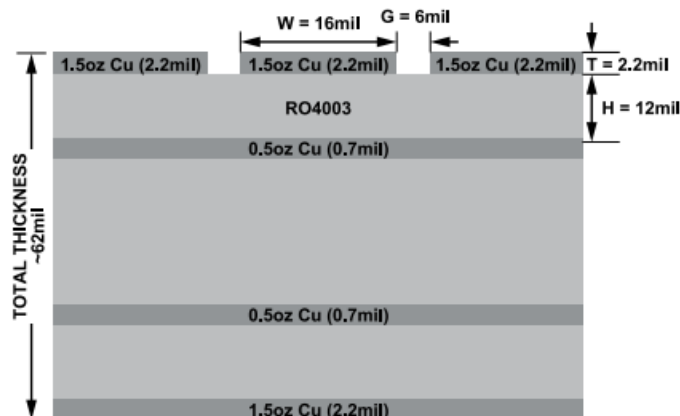

Figure 2. Evaluation Board Stack-Up
- The ADRF5715-EVALZ is designed using RF circuit design techniques on a 4-layer printed circuit board (PCB). The PCB stack-up is shown in Figure 2.